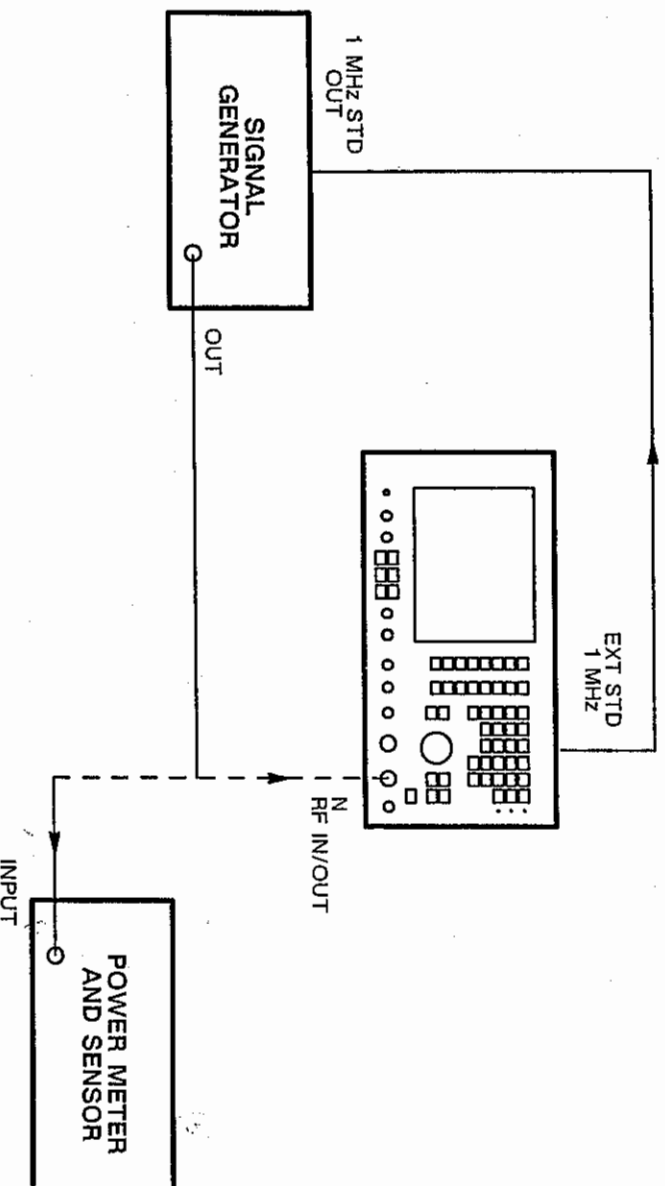

Fig. 6-6 Test equipment connections for modulation meter input sensitivity
- (1) Connect the signal generator 1 MHz standard output to the EXT STD 1 MHz socket. Connect the power meter through its sensor to the signal generator variable output. See Fig. 6-6.
- (2) On the 2955A, set the mode to TRANSMITTER TEST, MOD to FM, FILTER to 0.3-3.4 KHz BAND PASS and RF IN/OUT to N.
- (3) Set the signal generator carrier frequency to 400 MHz, modulation level to 10 kHz FM and modulating frequency to 1 kHz.
- (4) On the signal generator, adjust the RF level to give a reading of 5 mW on the power meter.
- (5) Transfer the signal generator variable output to the RF IN/OUT N socket.
- (6) On the modulation meter, check that the reading is 10 kHz.
- (7) On the 2955A, set the MODE to DUPLEX test and SELECT to ONE PORT.
- (8) Transfer the signal generator variable output to the power meter.
- (9) Repeat (3) to (6) except that, on the signal generator, adjust the RF level to give a reading of 20 mW on the power meter.